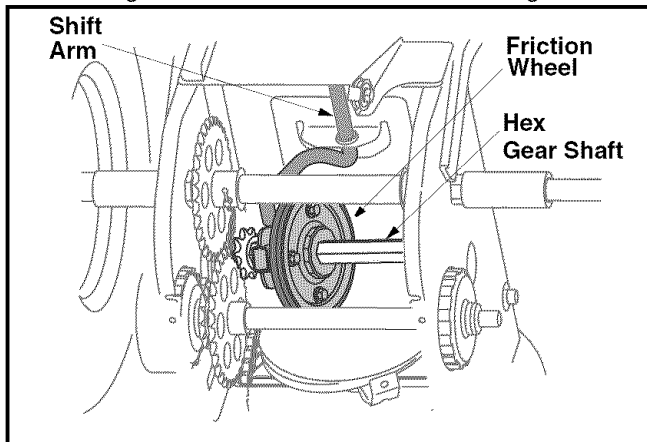

Figure 28
10. Insert the shift arm assembly into the friction wheel assembly and hold assembly in position. See Figure 28.
14. Install the right bearing on the hex gear shaft and check that the spacer and bearing in the drive cover are aligned to the steerable shaft. See Figure 28.